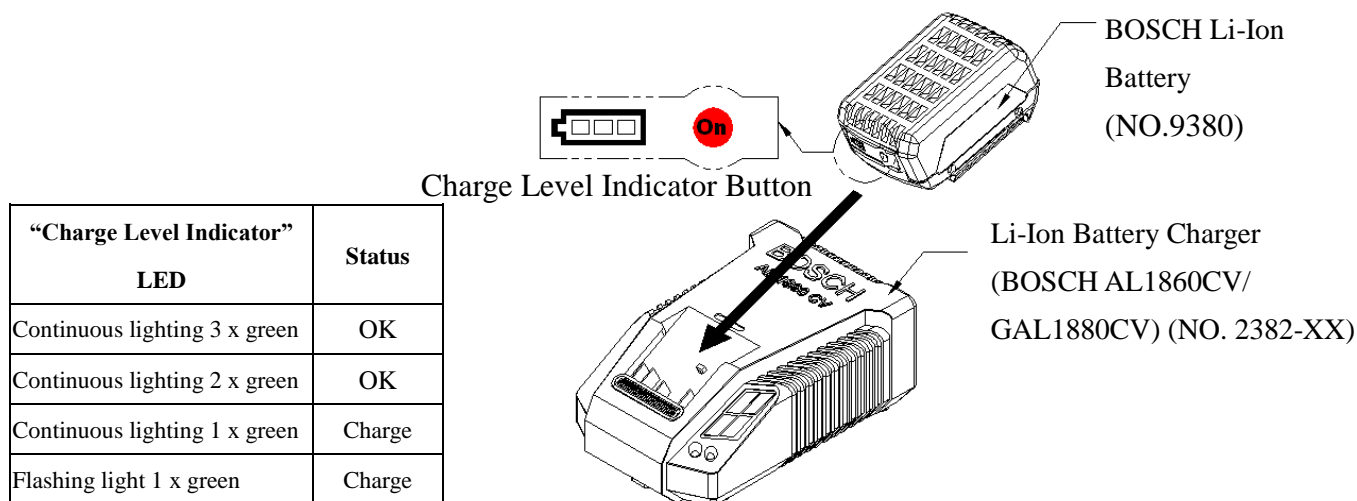

FIGURE 3. Illustration of Inserting Battery onto Charger
Refer to FIGURE 3 to insert the battery into charger (Please refer and follow the safety instruction and operation of the battery and charger user manual.)
- * Each BOSCH Li-Ion battery (No. 9380) is equipped with Charge Level Indicator. Press button to check the status of charge level condition (capacity), as shown on Figure 3 (*For safety reasons, it is only possible to check the charge condition when the tool is at a standstill.)